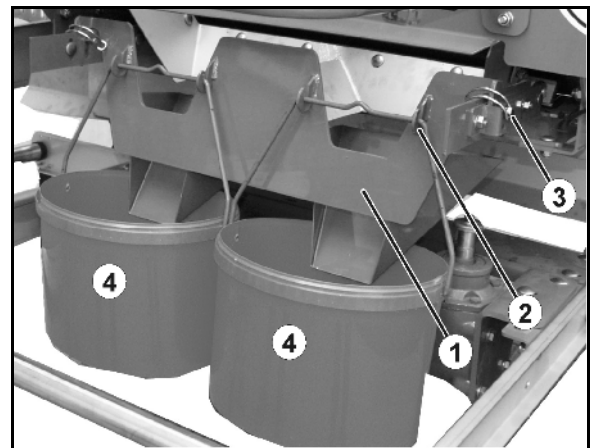

Fig. 85
6. Hang the calibration device (Fig. 85/1) in the pockets (Fig. 85/2) and secure using clip pins (Fig. 85/3) sichern.
7. Hang each one calibration bucket (Fig. 85/4) on the hook underneath the outlets.